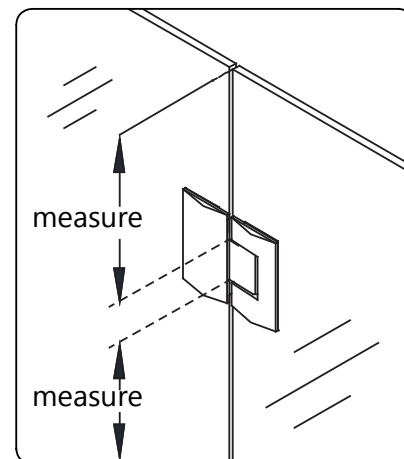

Fig 22
- from the top edge of the **Door Glass (#01)** to the top of the center portion of the top **Hinge (#05)**. (See **Fig 22** for an example, which can be used for all three measurements)
- from the bottom of the center portion of the bottom **Hinge (#05)** to the threshold. (**Fig 22**)